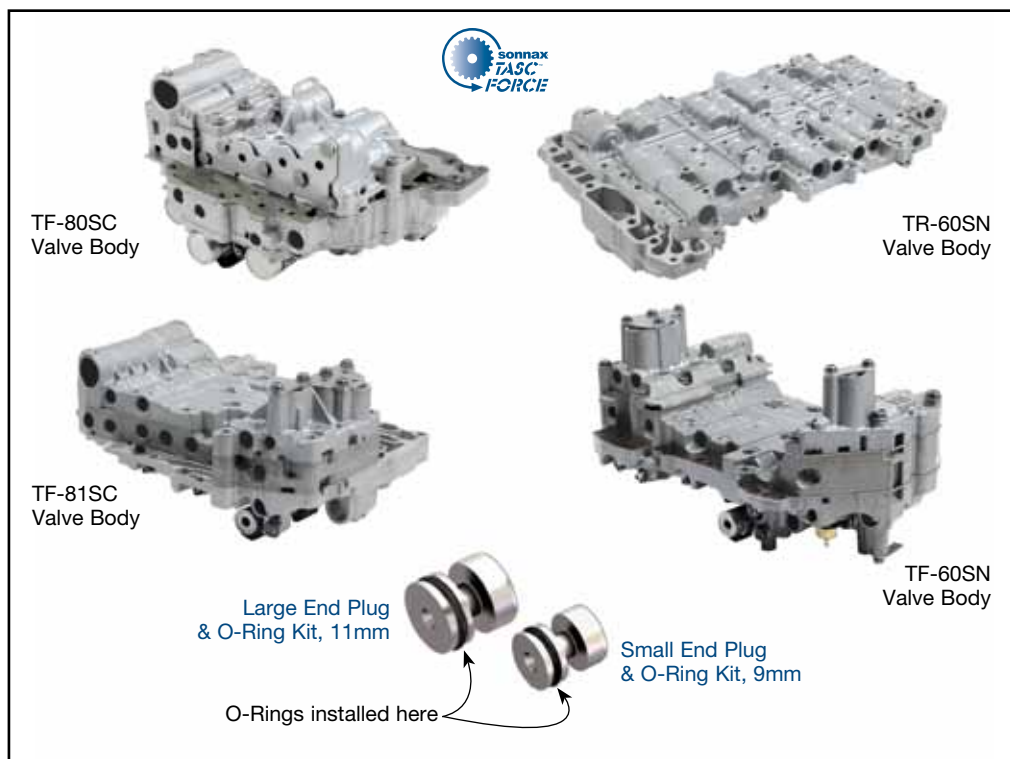

Figure 1
- Inspect the bore entry surface for a ridge just inboard of the end or chamfer. The ridge is difficult to see with the naked eye, but can be felt by carefully dragging a sharp pick out the bore and down the chamfer (**Figure 1**).